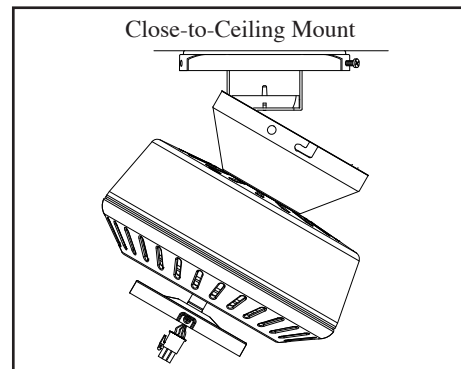

Figure 12b
7. If using close-to-ceiling mounting, hang the fan on the hook provided by utilizing one of the holes at the outer rim of the ceiling canopy. (Figure 12b)